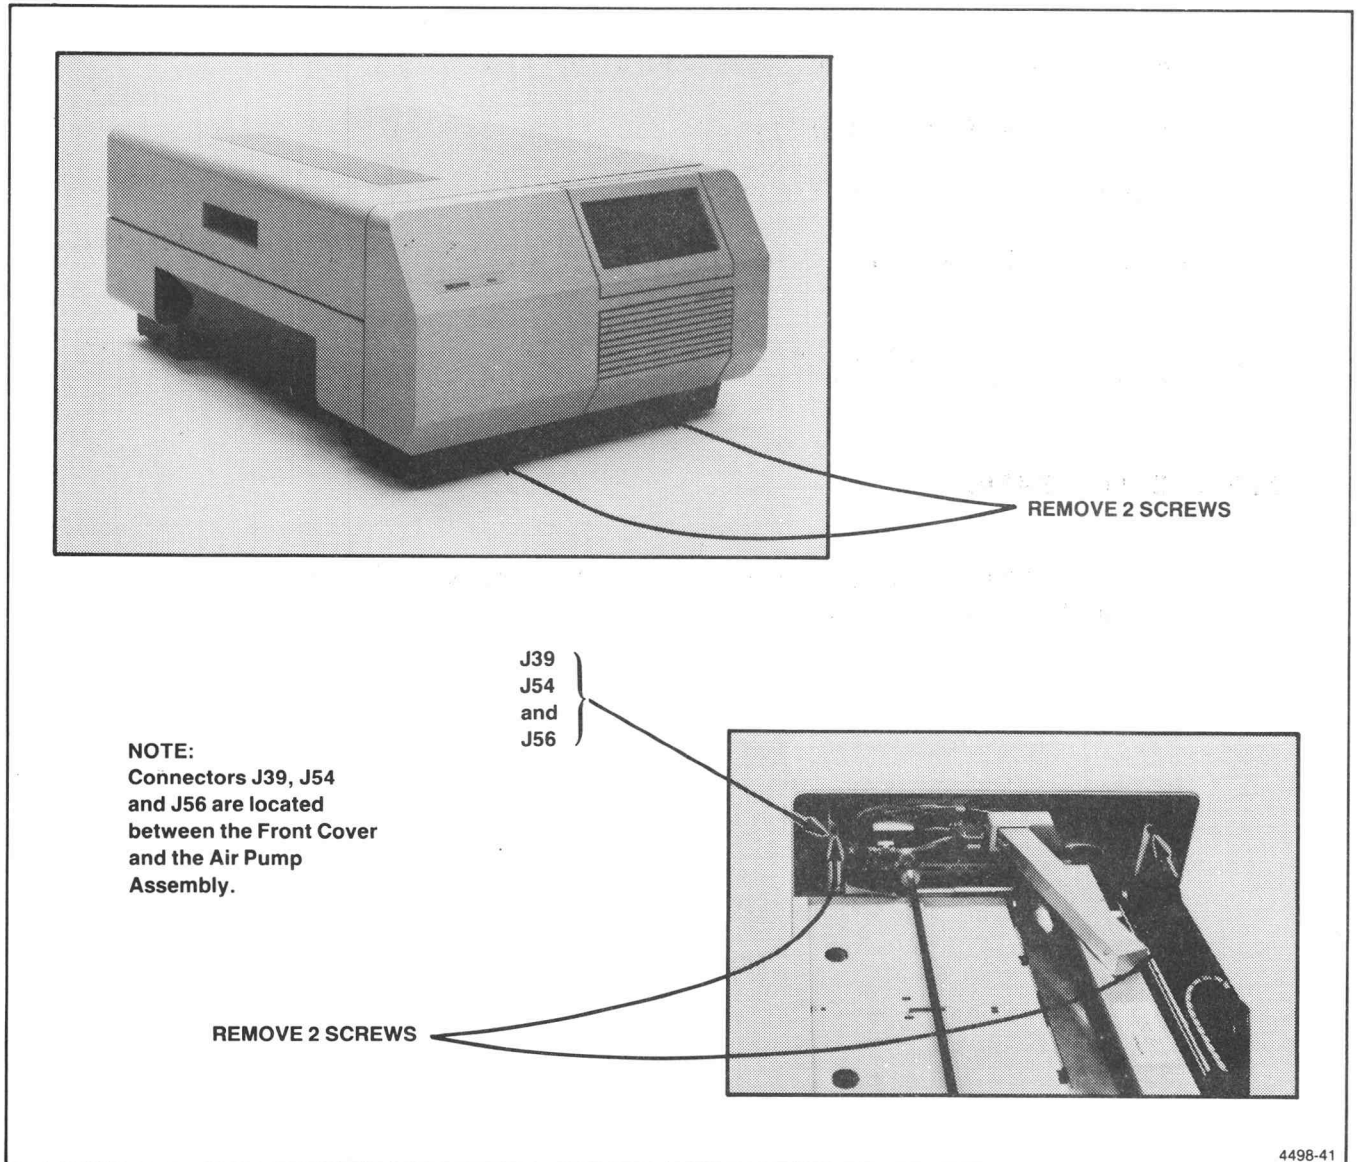

Figure 7-2. Front Cover Removal.
2. Disconnect the front panel cables. J39, J54, and J56. See Figure 7-2.